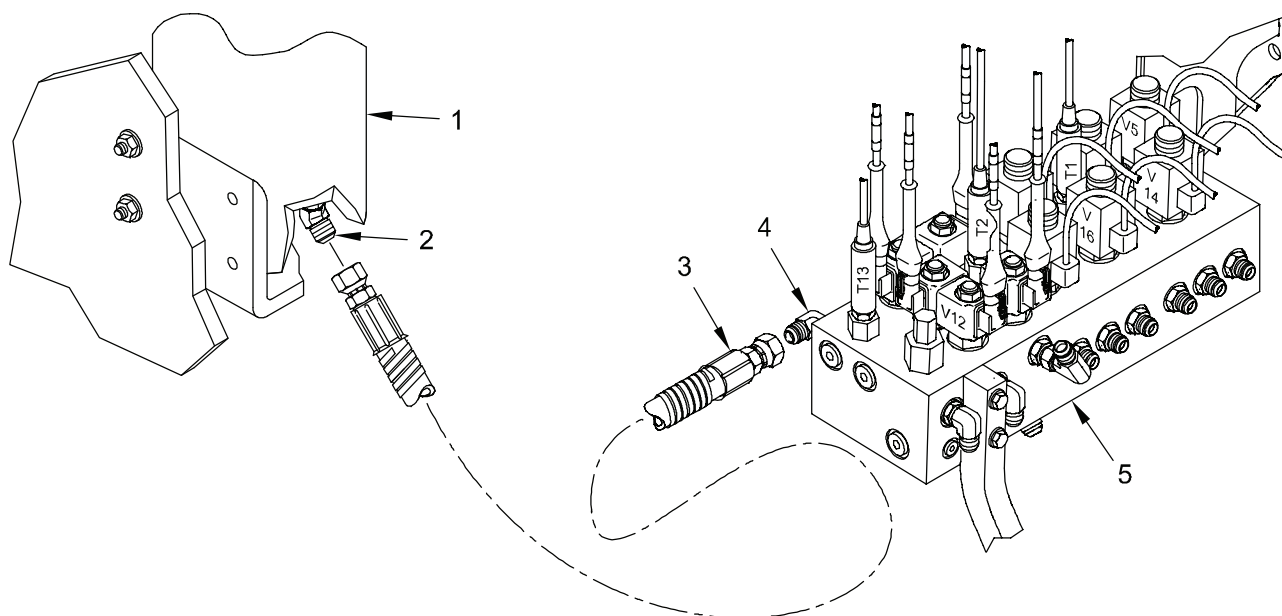

Figure 1. Replacing HDC Interconnecting Hydraulic Hoses and Tubes
1. Remove hose (Figure 1, item 3) from adapter (Figure 1, item 4) on primary manifold assembly (Figure 1, item 5). Plug hose (Figure 1, item 3) and cap adapter (Figure 1, item 4) on manifold to prevent leakage.
2. Remove other end of hose (Figure 1, item 3) from adapter (Figure 1, item 2) on main accumulator (Figure 1, item 1). Plug hose (Figure 1, item 3) and cap adapter (Figure 1, item 2) to prevent leakage.
1. Install hose (Figure 1, item 3) at main accumulator (Figure 1, item 1) adapter (Figure 1, item 2).
2. Install other end of hose (Figure 1, item 3) at primary manifold (Figure 1, item 5) on adapter (Figure 1, item 4).